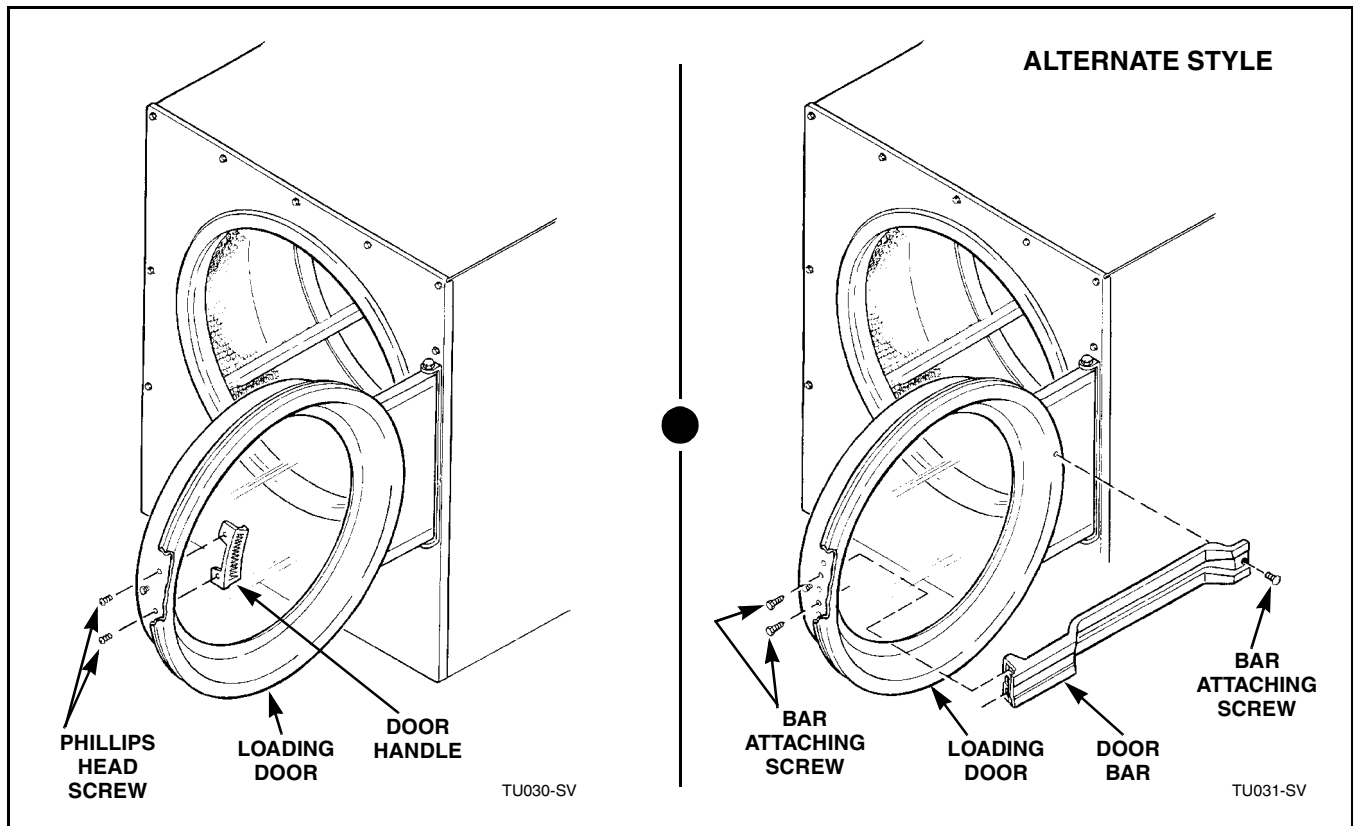

Figure 31
Refer to *Figure 31*.
- Remove screws holding door handle to door frame. Refer to *Figure 31*.